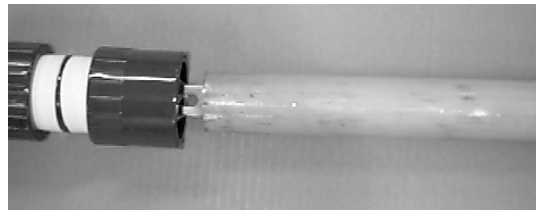

Figure 2
1. Slip the new female adapter over the Electrode and tighten to the Bulkhead. (See Figure 2)